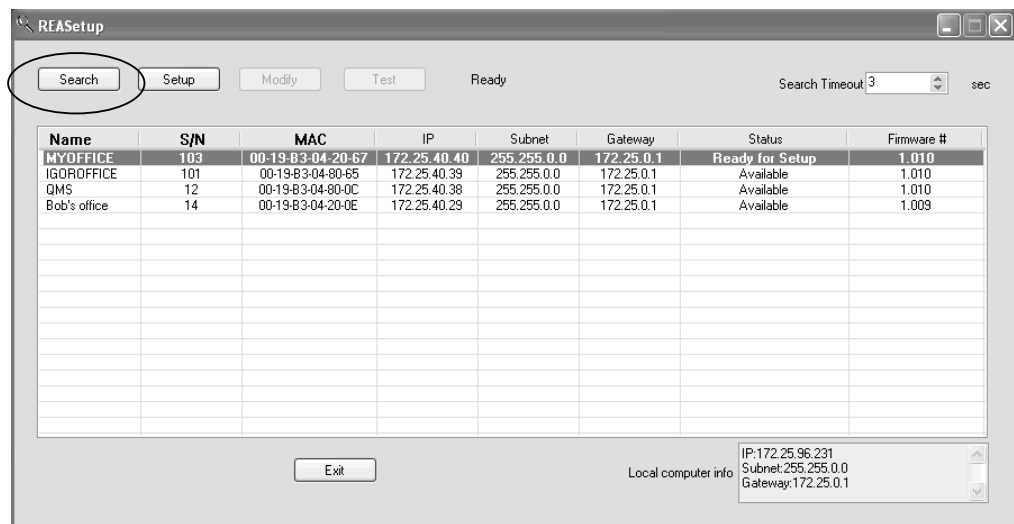

Figure 3-1 REASetupUtility window after successful 'Search'
7. Select the row with the 'Ready for Setup' status, then click the 'Setup' button (see Figure 3-1). The following dialog box will appear.